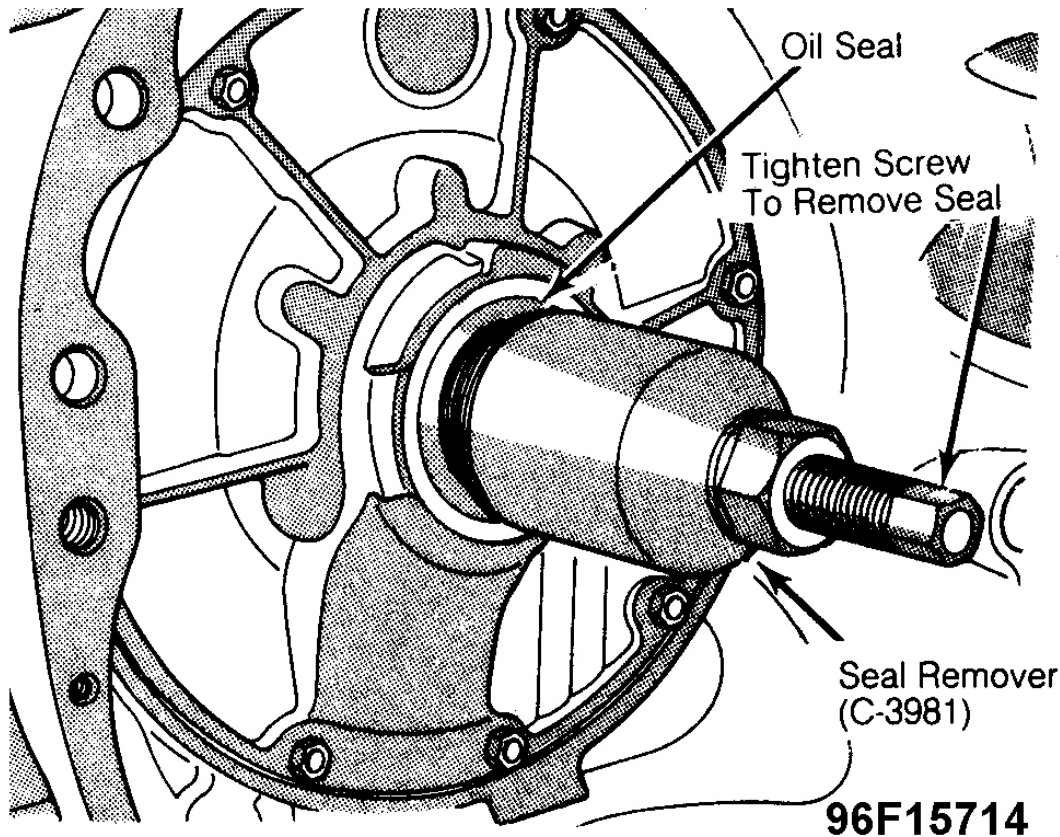

Fig. 32: Removing Oil Pump Seal
11. If necessary, remove oil pump seal using Seal Remover (C-3981). See **Fig. 32** . Drive new seal (seal lip facing inward) into oil pump until it is fully seated.